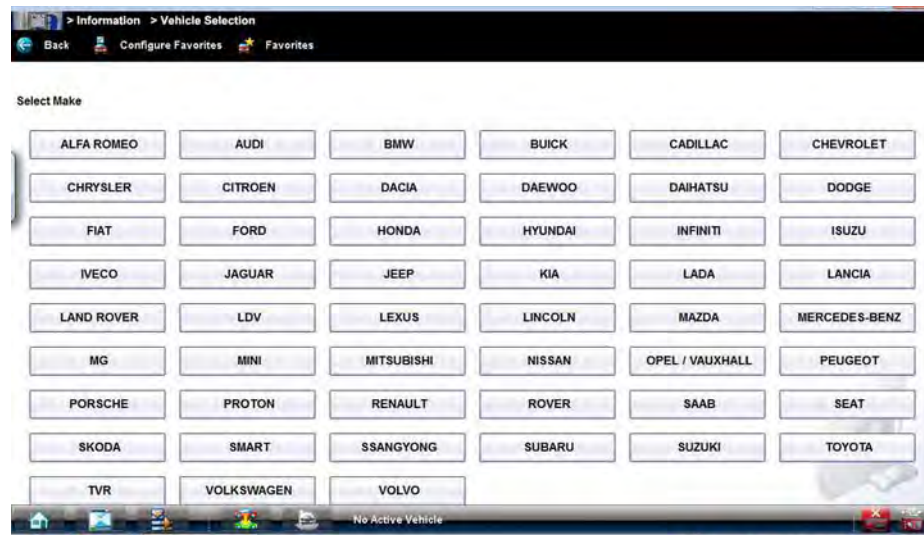

Figure 9-3 Vehicle manufacturer list
1. From the Vehicle Make selection screen (Figure 9-3), select the **vehicle make (manufacturer)**.